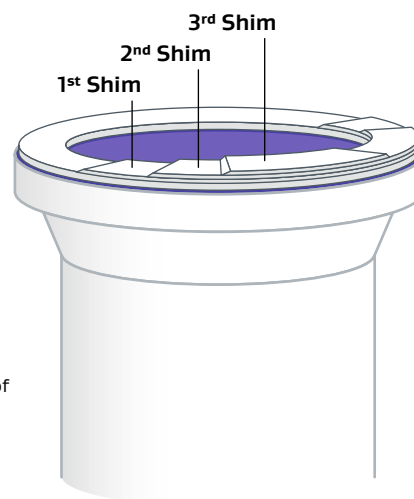
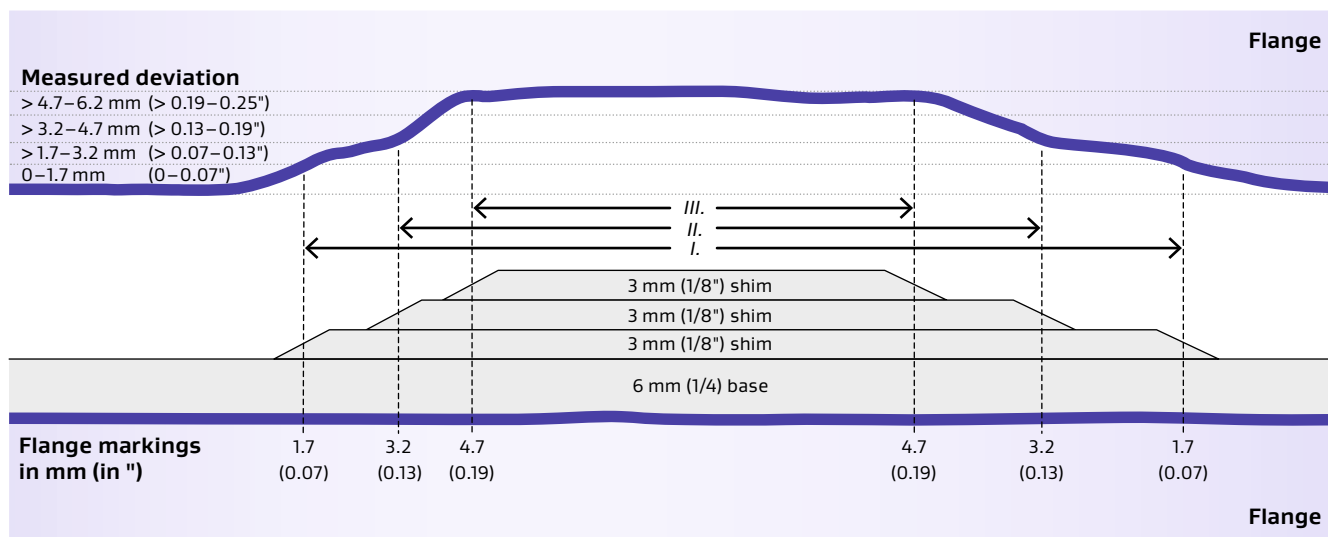

Figure 8: Illustration of multiple shim layers
Figure 7: Flange deviation example with 6 mm (1/4") base tape. Note: Figure is not to scale.
See Figure 7 for an example of completed flange deviation markings and associated shimming.
- On the stationary/bottom flange, mark all start- and end-points where the prescribed thickness of feeler gauge could be inserted. (See tool list for feeler gauge requirements.) Refer to Table 2 and Figure 7 for additional detail regarding use of a 6 mm base layer.
Use Gore's 3 mm (1/8") Series 1000 Shimming Tape to compensate for flange deviations that were previously marked (per Section 2.3). See Figure 7 for examples (*I*, *II* and *III*) of irregularities and associated flange markings. A multiple-shim installation is illustrated in Figure 8.
- Place the skive-cut end atop the base layer of gasket tape, with the skive ramp centered on the beginning deviation mark on the flange. (See Figure 7.)
- Skive-cut the squared end per Section 3.5, with the skive ramp centered on the ending deviation mark on the flange (See Figure 7). Be sure to remove the excess shim tape beyond the skive cut.